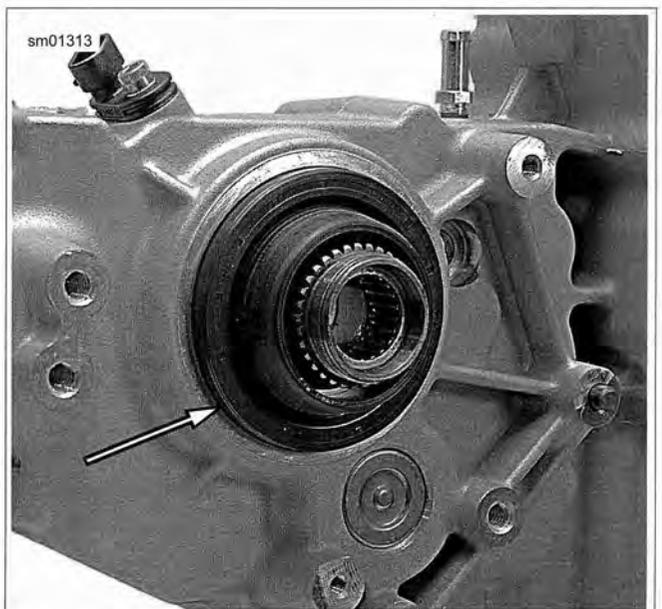

Figure 5-81. Install Main Drive Gear Seal (typical, XL model shown)
5. See Figure 5-81. Place seal over pilot and position seal squarely in end of crankcase bore.